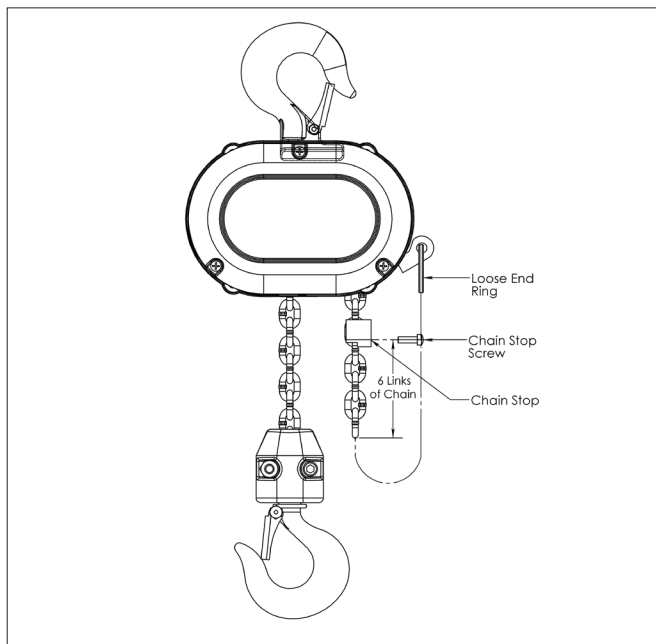

Figure 18 - Chain Stop
4. Jog the UP push button while pulling on the free end of wire until the chain comes out of the hoist. Remove the wire and attach the chain stop as shown in Figure 18. On units with chain container, place chain stop and loose end of chain in chain container. Attach chain container to chain guide.